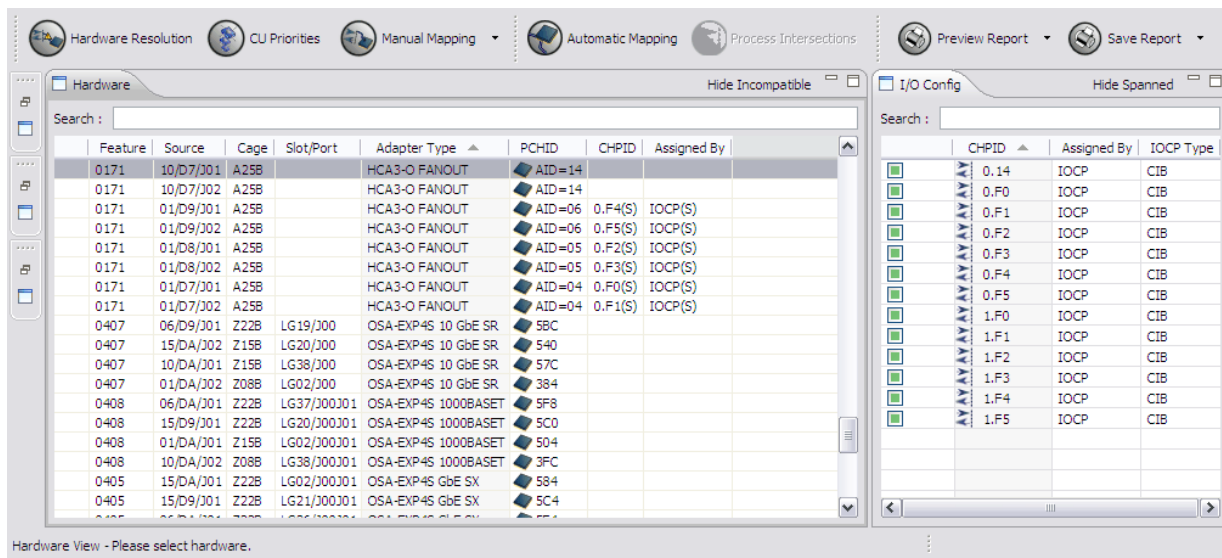

Figure 107. Manual Mapping view – Hardware pane and I/O Config pane
You perform manual mapping mainly in the Hardware pane and the I/O Config pane of the Manual Mapping view. Figure 107 on page 88 shows these panes.
2. Select the target row containing the PCHID to which you want to map one or more CHPIDs. Figure 107 on page 88 shows the CHPIDs in the I/O Config pane.